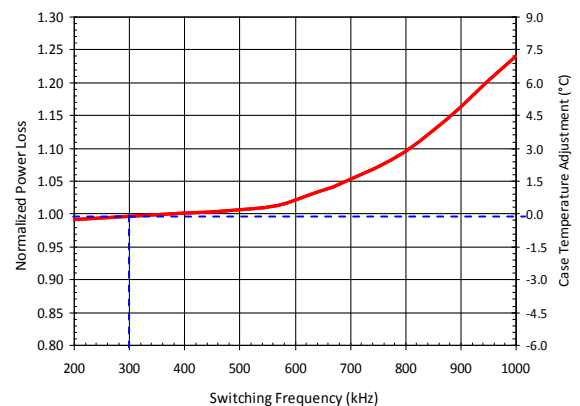

Figure 12: Normalized Power Loss vs. Switching Frequency
- 4) Determine the switching frequency normalizing factor with $f_{SW} = 300kHz$, which is 0.99 based on the dashed lines in Figure 12.